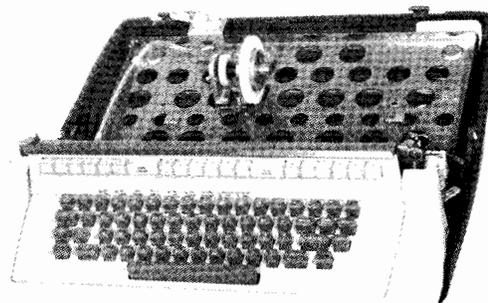

Figure 1 - 37 Keyboard Unit
1.01 This section provides lubrication procedures for the late design, 11-contact 37 keyboard unit (Figure 1). It is reissued to incorporate engineering changes and comments which were received on Issue 1. Since only a limited distribution was made on Issue 1, marginal arrows have been omitted. Refer to Section 574-321-701TC for lubrication procedures for early design, 28-contact units.